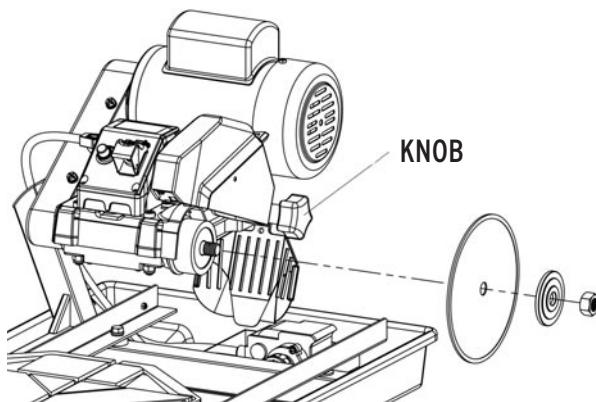

Figure 1
1. (See figure 1) Loosen the knob on the blade guard by turning it counter-clockwise until the blade guard can rotate.